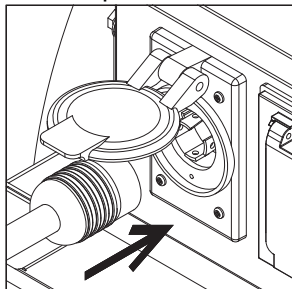

Figure 3-42. Utility Cord Installation to Unit
- See Figure 3-42. Install 240 V, four-terminal cord to unit power inlet port.